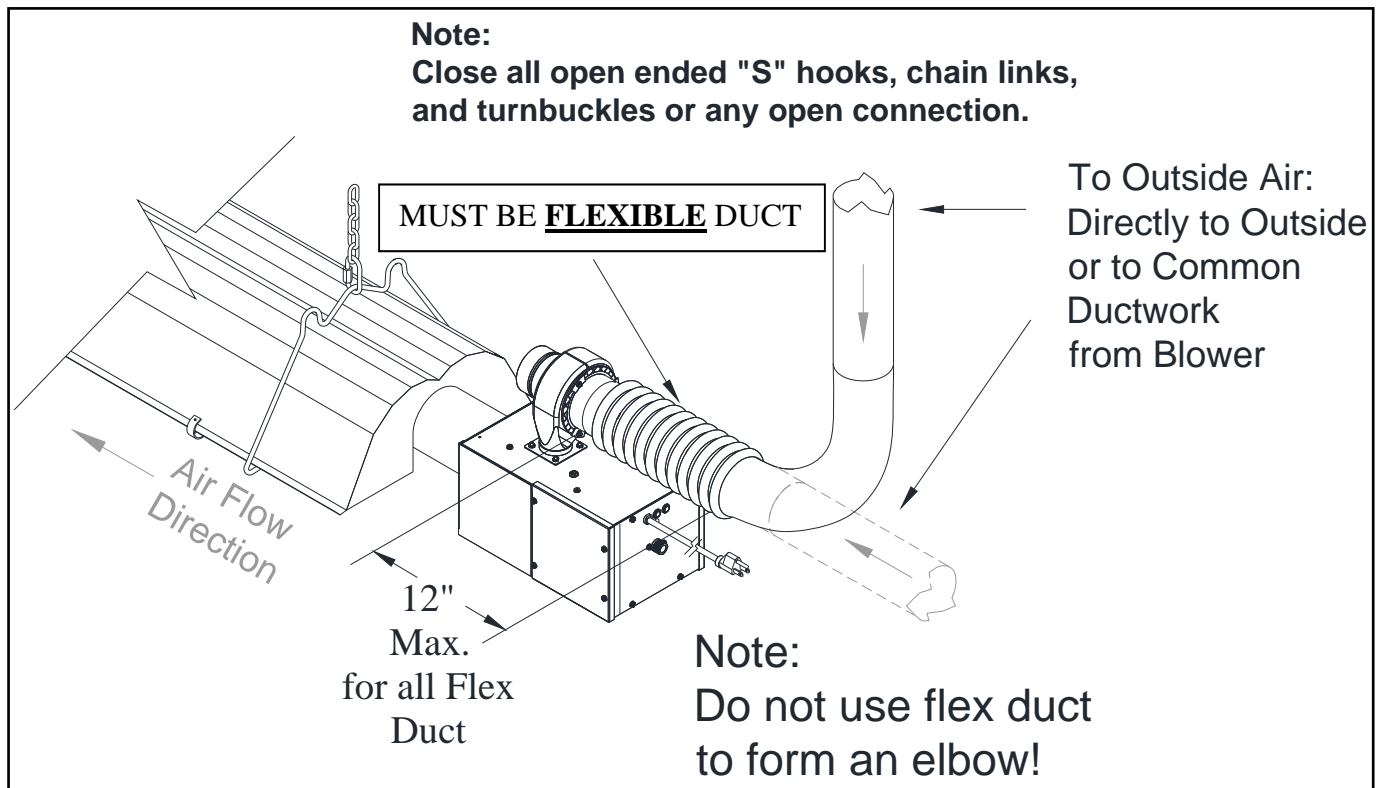

**Figure 25: Common Horizontal Venting**
- Refer to **Figure 25** for detailed Common Horizontal Venting guidelines.